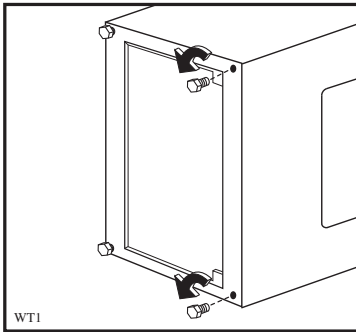
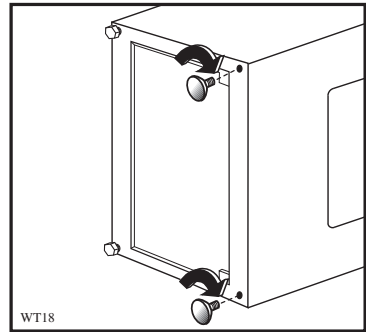

Fig 1
Fig 1a
- Remove the front feet (fig. 1) and substitute them with the relative rubber feet (fig. 1a).